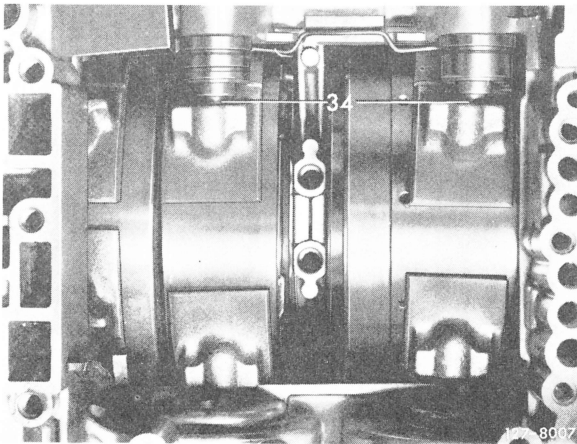

Fig. 60
**87** Insert the two thrust pins (34) (Fig. 60).